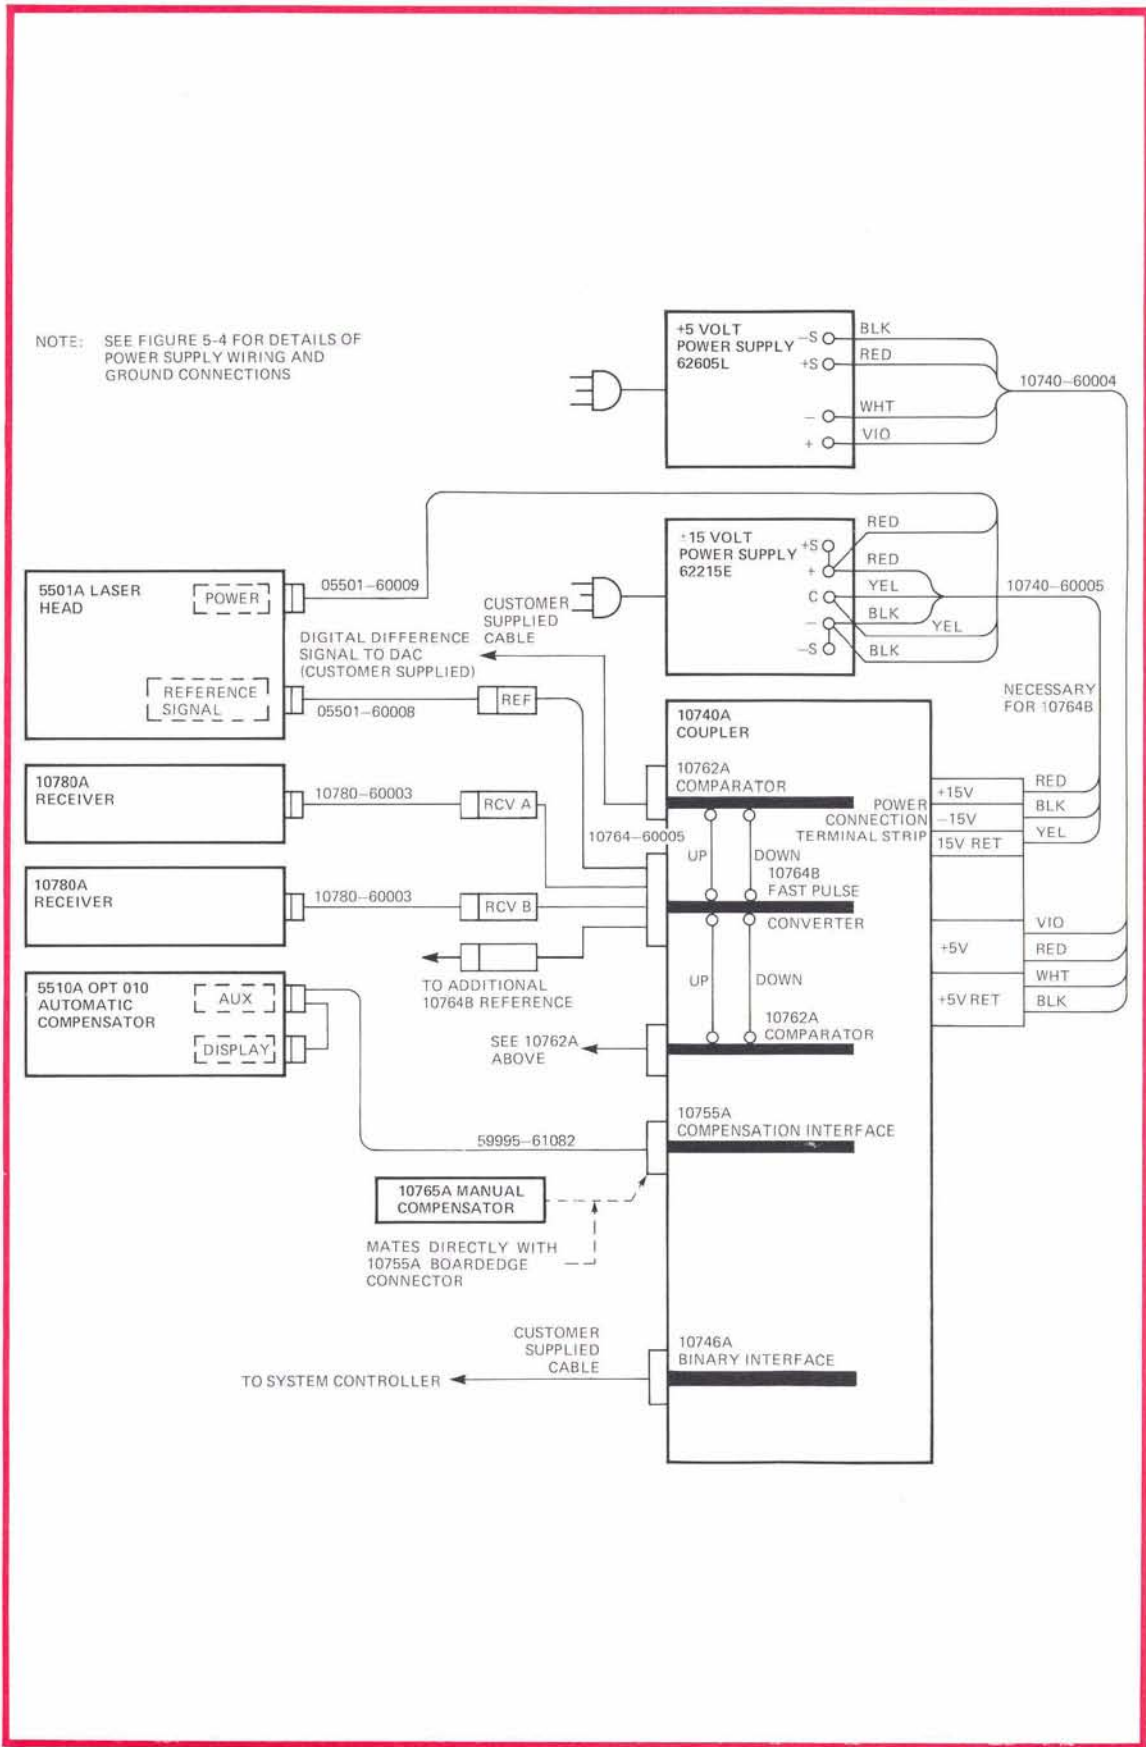

Figure 5-8. Comparator-Based System Interconnecting Diagram
- i. Connect the reference/measurement cable from the laser head and first two receivers to the first 10764B Fast Pulse Converter card (see *Figure 5-8* for a typical system setup).